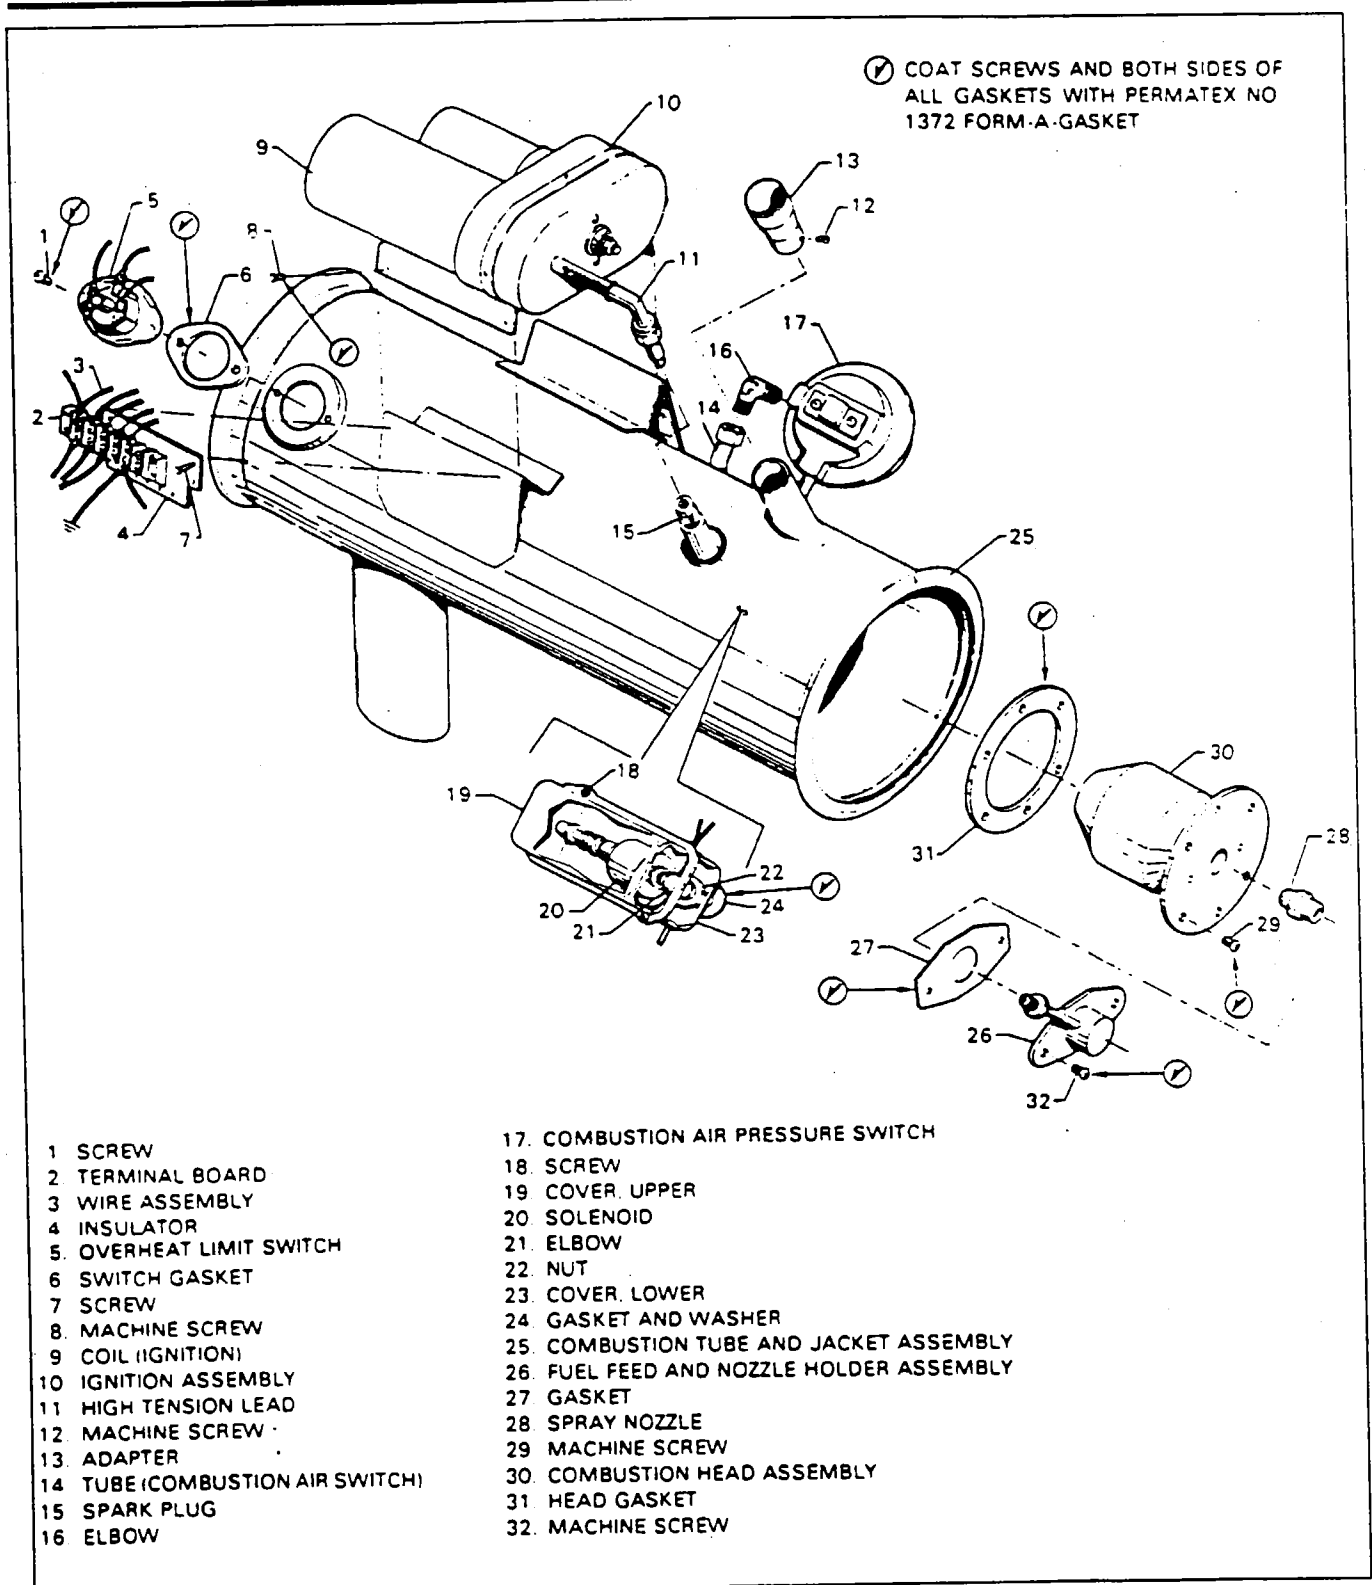

Figure 21-12. Heater Assembly (47D65-3) Exploded View
5. Spray test the nozzle (Figure 21-12) as follows:
DISASSEMBLY OF HEATER. (Refer to Figure 21-12.)
REASSEMBLY OF HEATER. (Refer to Figure 21-12.)
For screw and gasket coating, refer to Note on Figure 21-12.*
4. Install the grommet (Figure 21-12) in the heater jacket opening.
REMOVAL OF IGNITION ASSEMBLY. (Refer to Figure 21-12.)
INSTALLATION OF IGNITION ASSEMBLY. (Refer to Figure 21-12.)